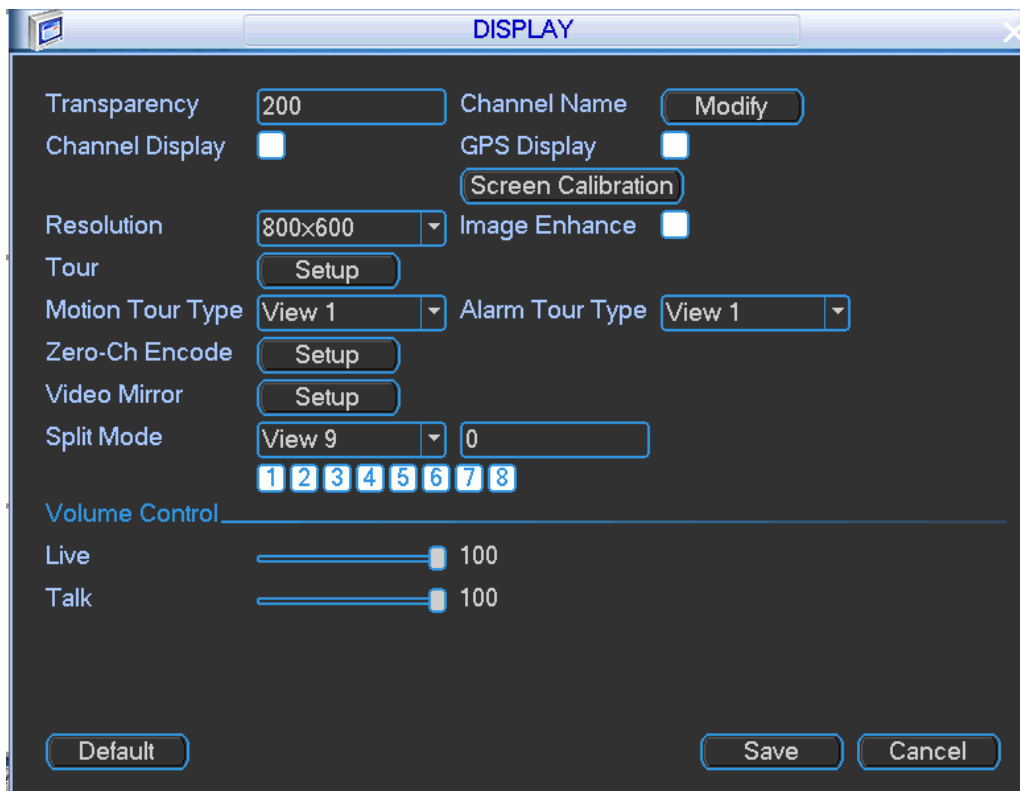

Figure 4-76
Step 1 From Main Menu->Setting->System->Display, enter output interface. See Figure 4-76.